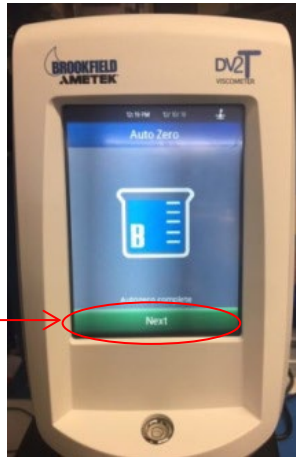

Figure 26: Auto Zero Complete Screen
5. When the Auto Zero process is complete, press the green **Next** button, shown Figure 26.